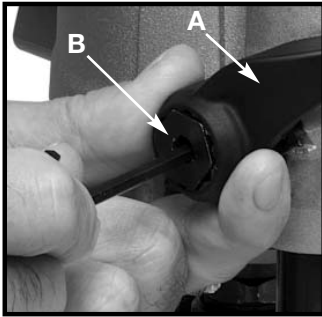

Fig. 11
1. Hold the plunge locking lever (A) Fig. 11.
2. Insert 3/32" hex wrench (not furnished) through the center of the plunge-locking bolt (B) Fig. 11 into the adjustment screw, and turn counterclockwise approximately one turn.